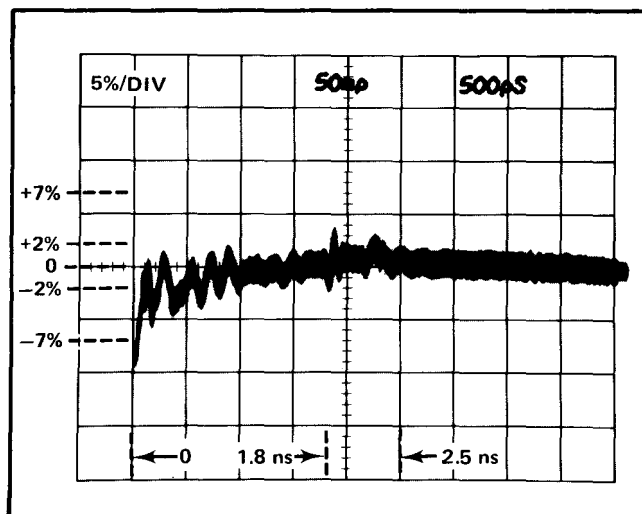

Fig. 5-6. Pulse aberrations of the S-6, S-52 and 7S12 system.
- g. Set the Time-Distance Multiplier at X.1 and the Time/Div switch at 500 ps. Adjust the Time-Distance control to position the point which is 2.5 ns from the start of the pulse at the graticule center. See Fig. 5-6.
- h. CHECK that the aberrations are within +2%, -2%, total of 4% P-P after 2.5 ns of the pulse edge. See Fig. 5-6.